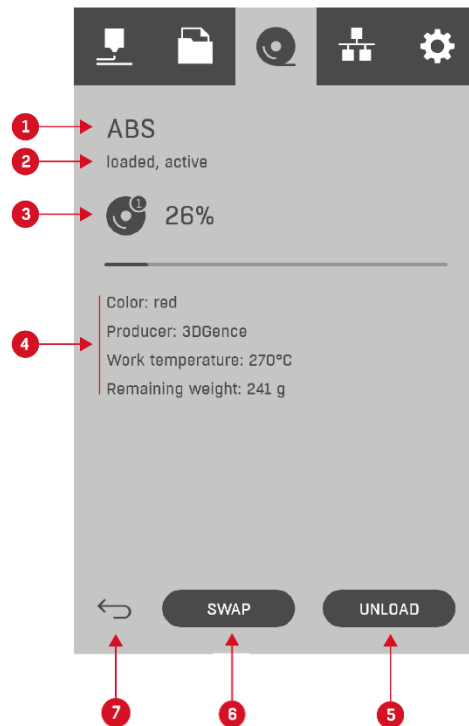

Fig. 39 Model material bay screen (model material bay 1)
5. Model material bay icon (model material bay 1). When SMM tagged material is loaded in the printer, its name and the percentage of material remaining on the spool are displayed on this screen. Use this icon to go to the model material bay screen (Fig. 39).